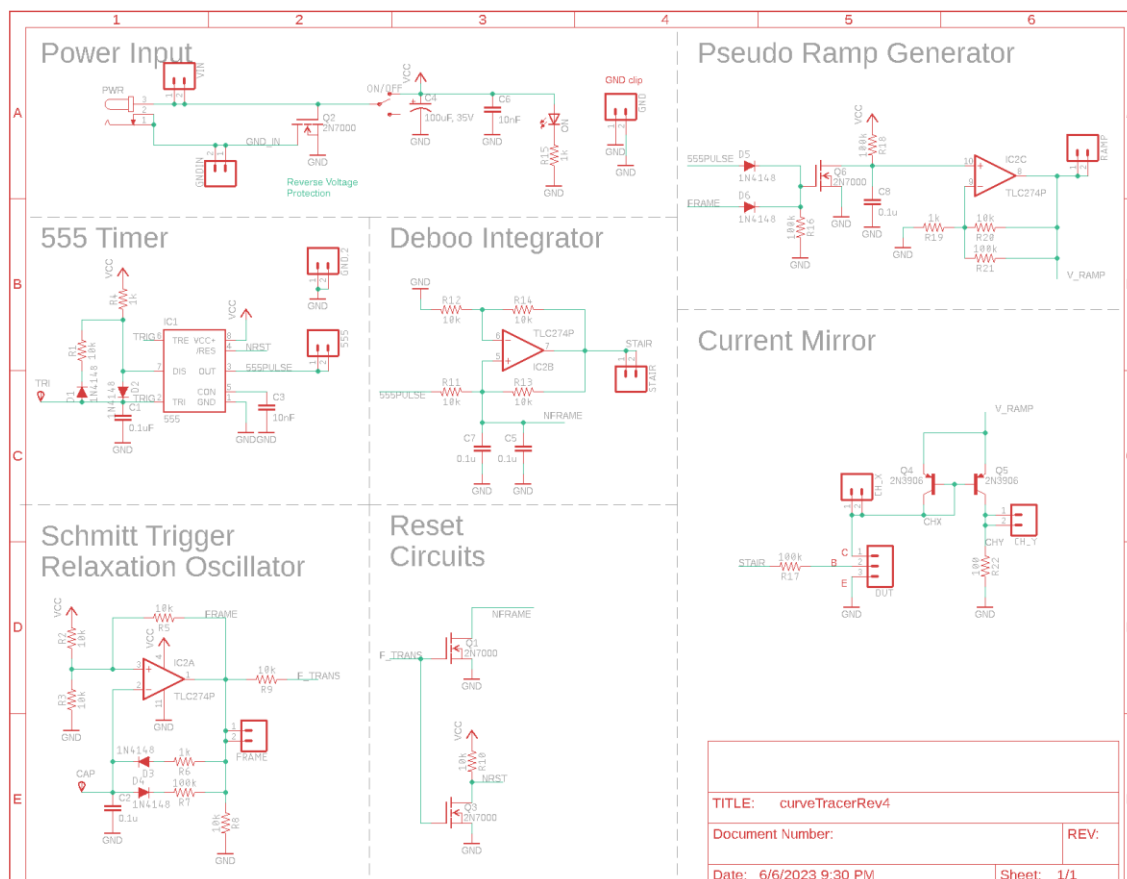
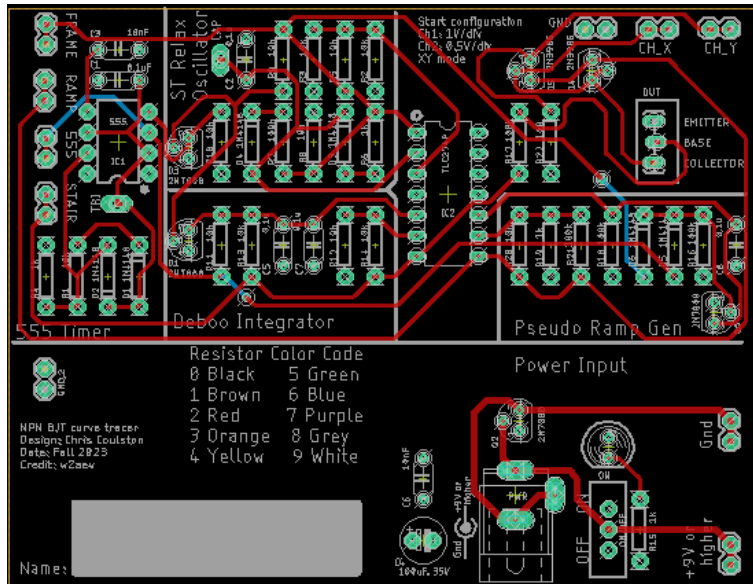

Figure 1: The schematic for the BJT curve tracer.
Figure 2: The layout of the BJT curve tracer.
This week, you will be soldering in the components associated with the POWER INPUT, 555 TIMER subsystems. These subsystems are names in Figure 1. It is important you do not solder in any of the other components in any of the other subsystems.
The schematic in Figure 1 is the starting point for the layout shown in Figure 2. The physical position of the parts in the schematic and layout are unrelated. The schematic is an abstraction of the finished layout. The layout contains all the data used in the fabrication of the PCBs – the layout
- The green circles in Figure 2 are the layout are plated through holes in the PCB.
- The red lines in Figure 2 are traces (wires) on the top side of the PCB.
- The blue lines in Figure 2 are traces (wires) on the bottom side of the PCB.
- The grey lines and text in Figure 2 are white silk screen on the PCB.